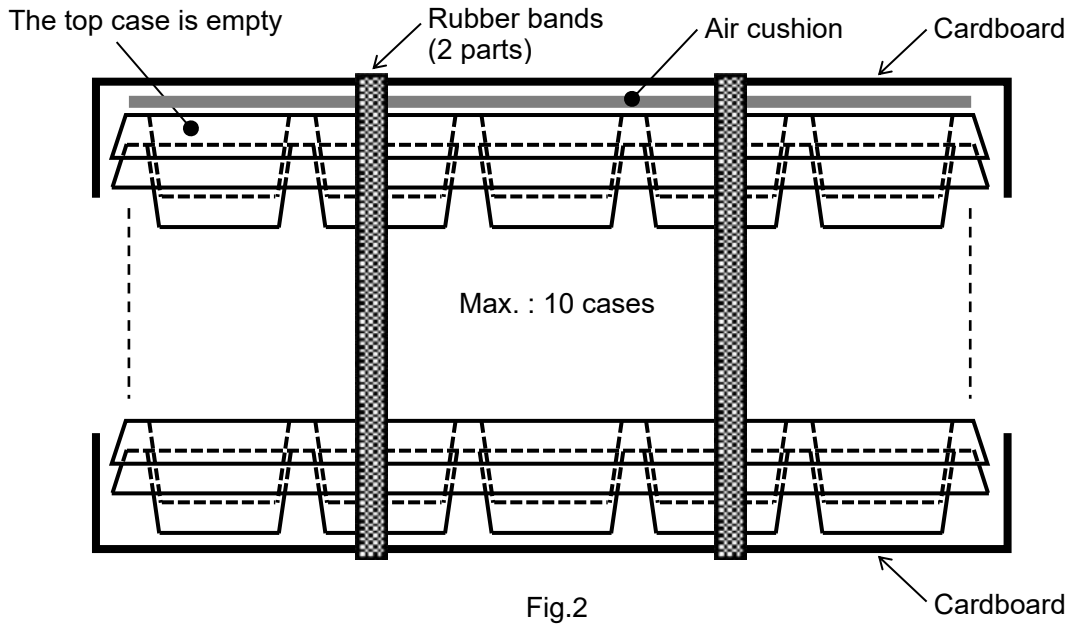

Fig.2
- (1) Put RD4 (Max. : 30 pcs.) in the packing case.
- (2) Pile up 10 cases (the top case is empty), cover top and bottom with the cardboard and fix 2 parts with rubber bands. (Refer to Fig.2)